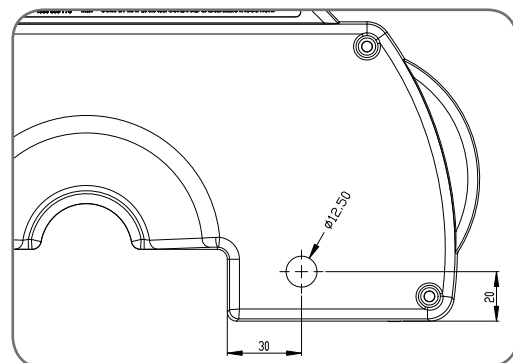

Fig 23
1. Drill a 12.5mm hole in the chassis enclosure at the location shown in (Fig. 23).